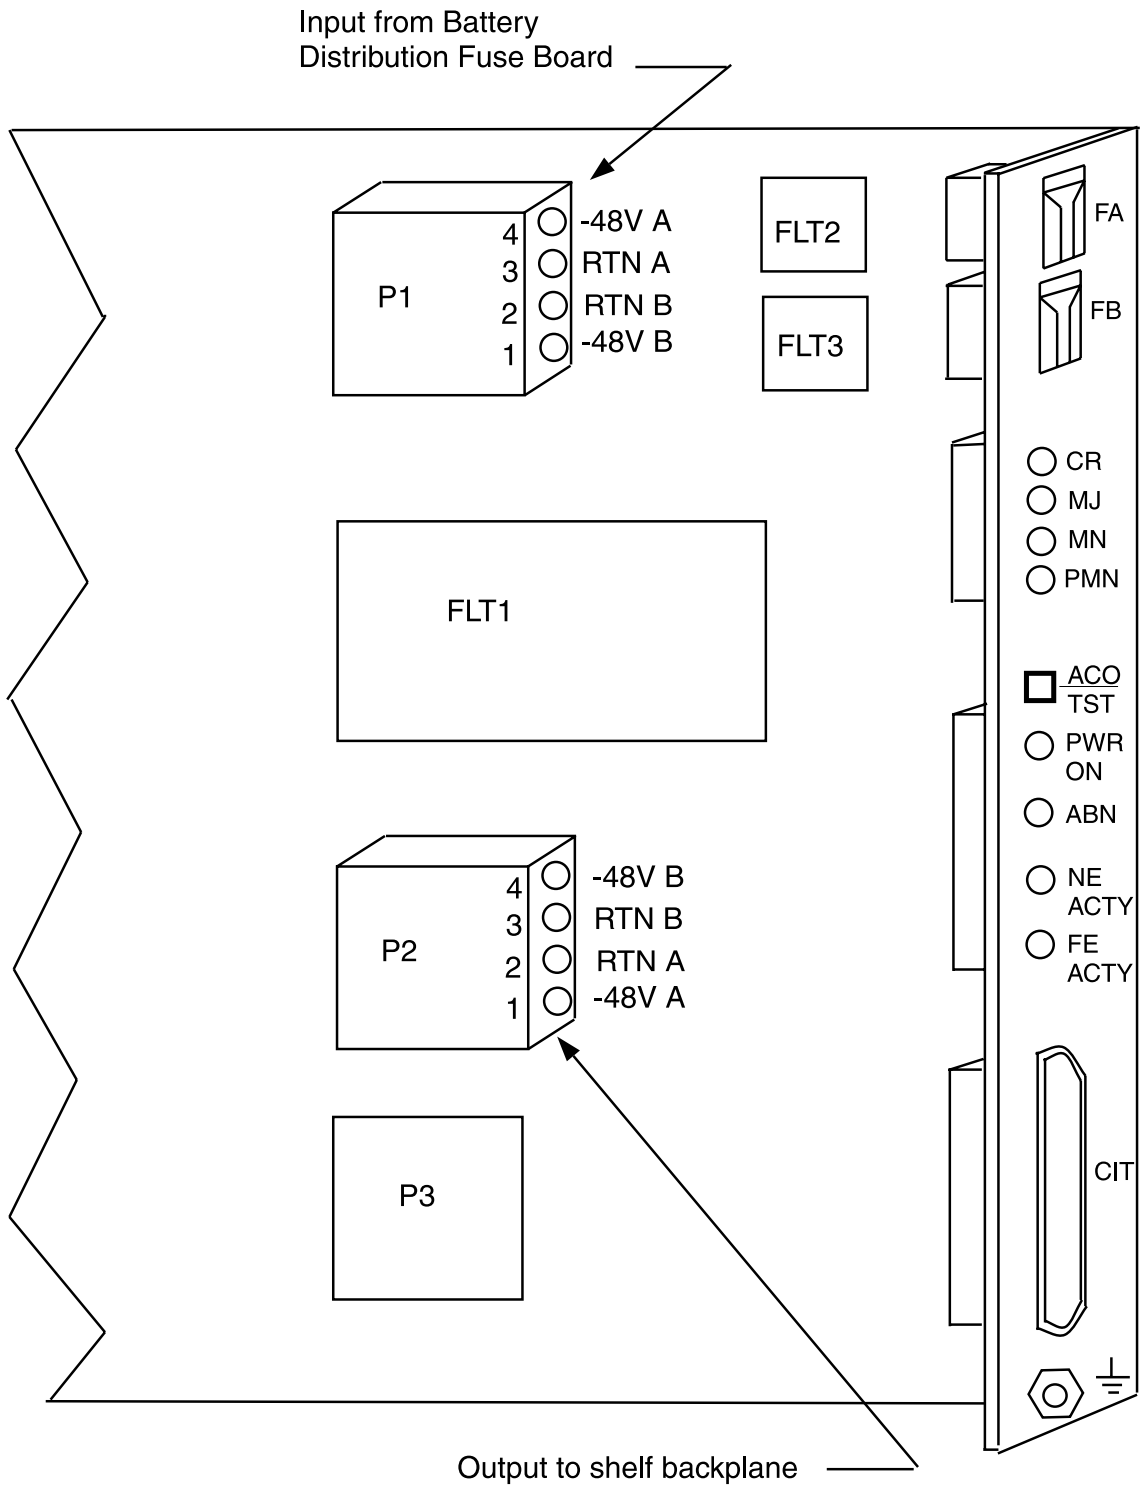

Figure 2 – ED-8C724-31, G2 User Panel for ED-8C724-30, G3 DDM-2000 OC-3 Shelf
8. Refer to Figures 1, 2, and 3. Is your shelf an ED-8C724-30, G1 shelf (Figure 1) or an ED-8C724-30, G3 or G4 shelf (Figure 2 or 3)?
14. See Figure 2 or 3.